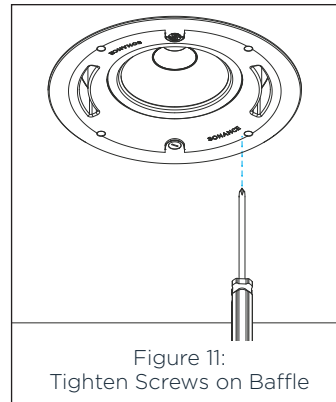

Figure 11: Tighten Screws on Baffle
- Tighten the four screws on the front of the baffle. The Roto-Lock Clamps will rotate into position automatically and begin clamping. When you notice resistance on the four screws, the loudspeaker has been clamped successfully (see Figure 11). The flange is designed to flex and conform to any small imperfections in the ceiling surface.